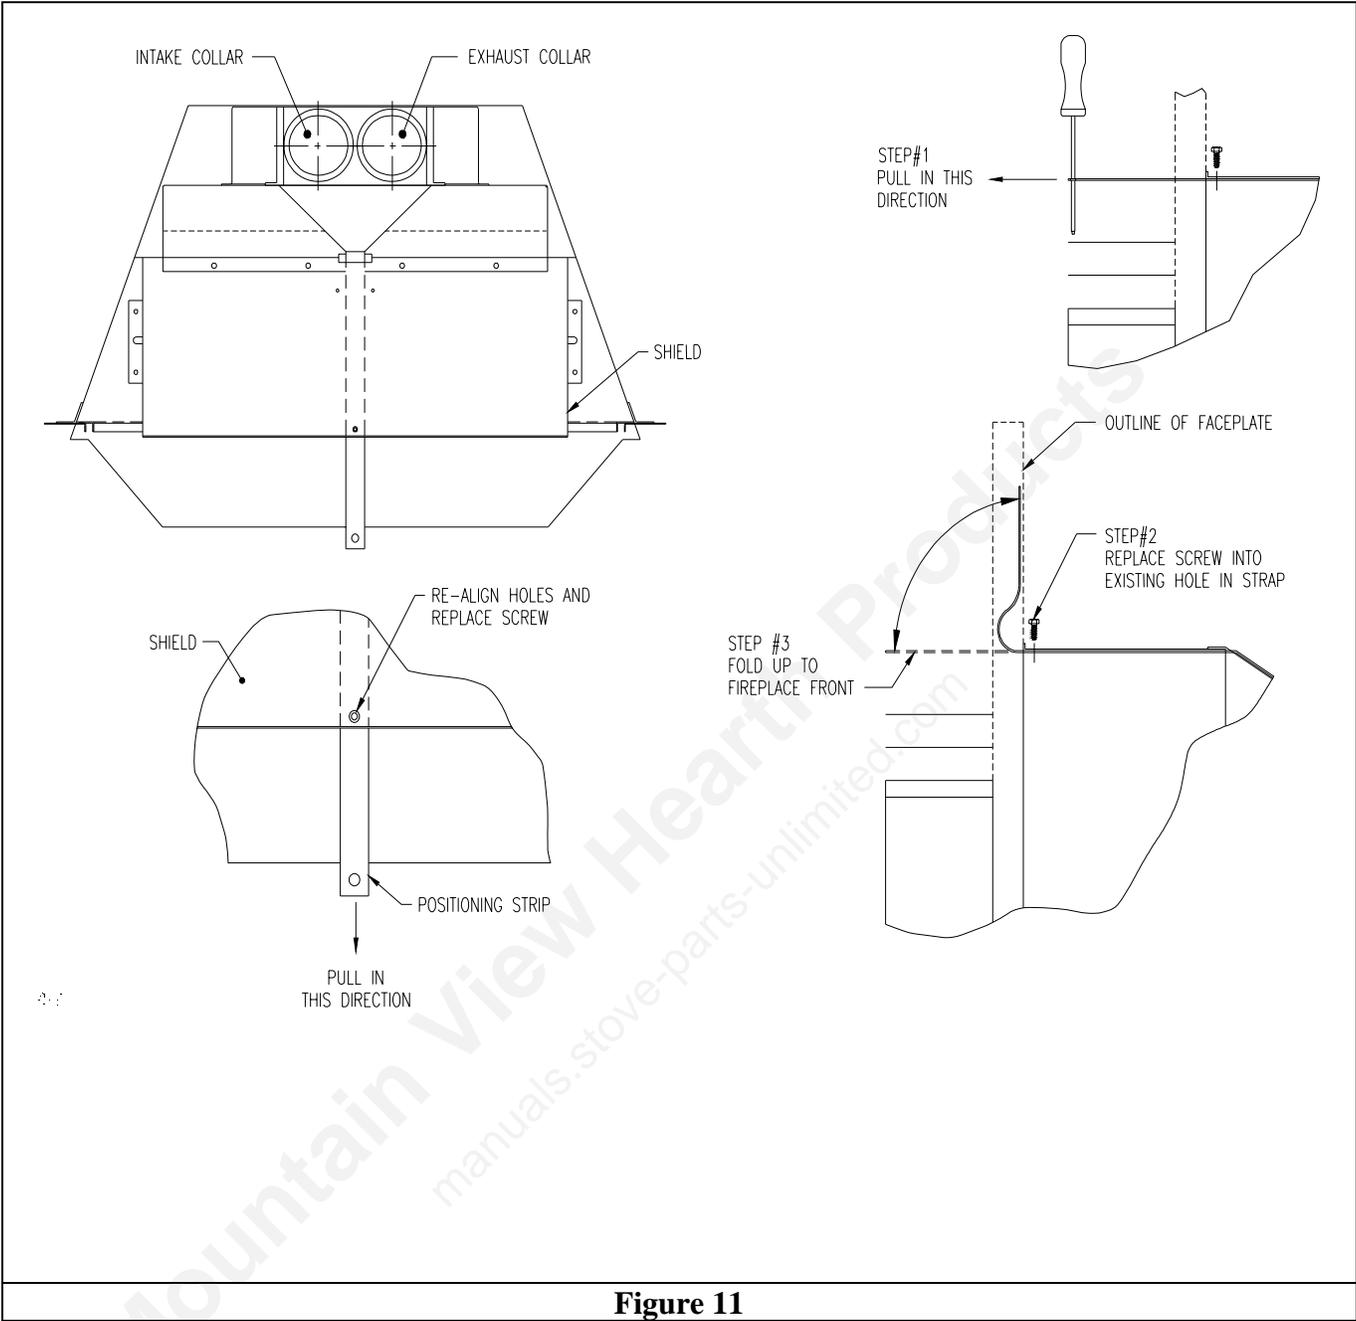
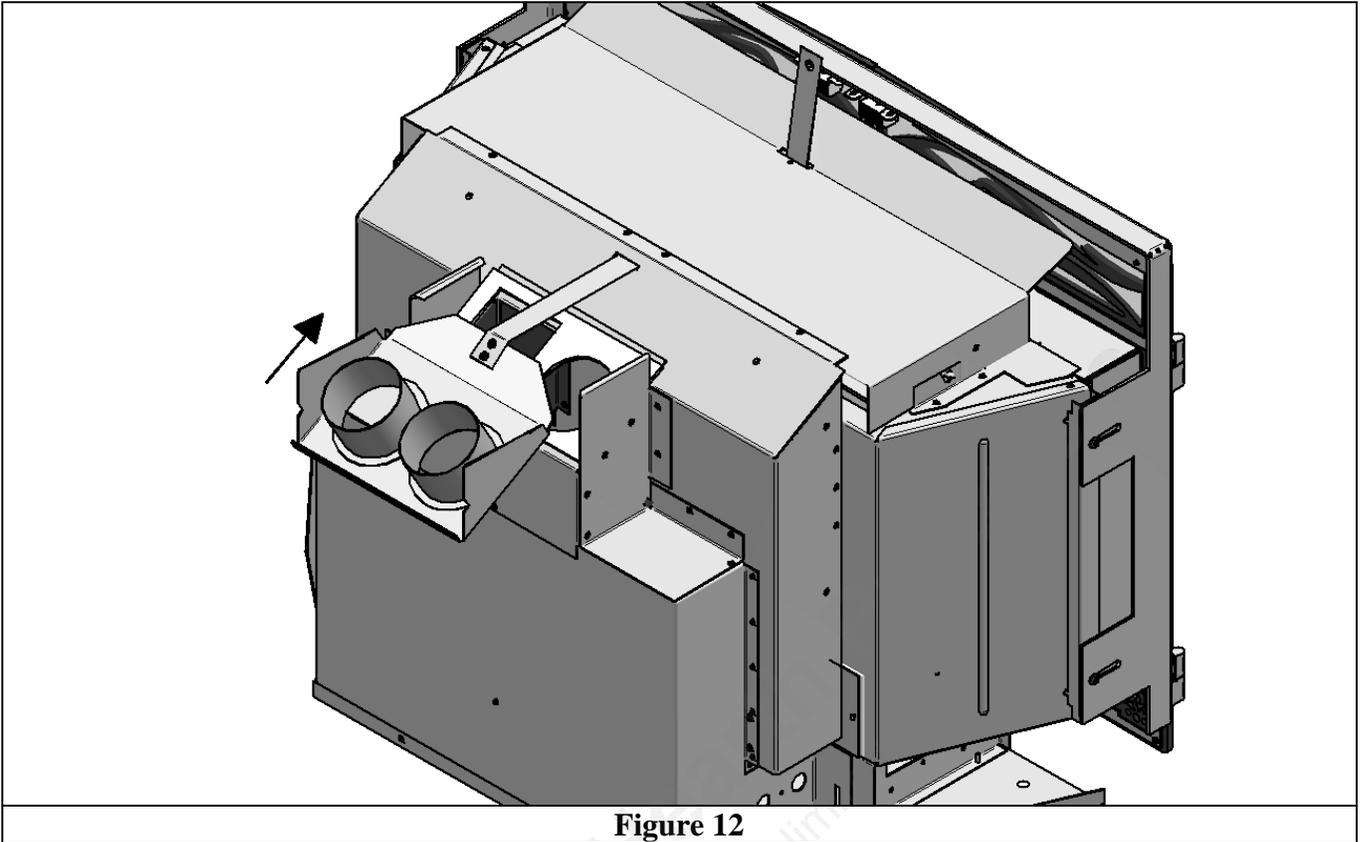

Figure 11
Figure 12
- a. Detach the vent connector plate by removing the screw securing the positioning strip to the top of the air jacket (Figure 11) and slide the vent connector plate off to the rear (Figure 12).
- d. Push the insert back into the enclosure, feeding the positioning strap through the slot at the top rear of the air jacket. Ensure that the strap passes freely under the air jacket and that it doesn't get caught in parts protruding from the firebox top. Continue to push the insert back as the strap is fed through until the hole on the strap lines up with the corresponding hole on the air jacket. A screwdriver can be used, if required, to help pull the strap forward. Secure the strap in position by replacing and tightening the screw in the top of the air jacket (Figure 11).
- e. Bend the forward end of the strap back and up against the fireplace front so that the faceplate can be installed (Figure 11).